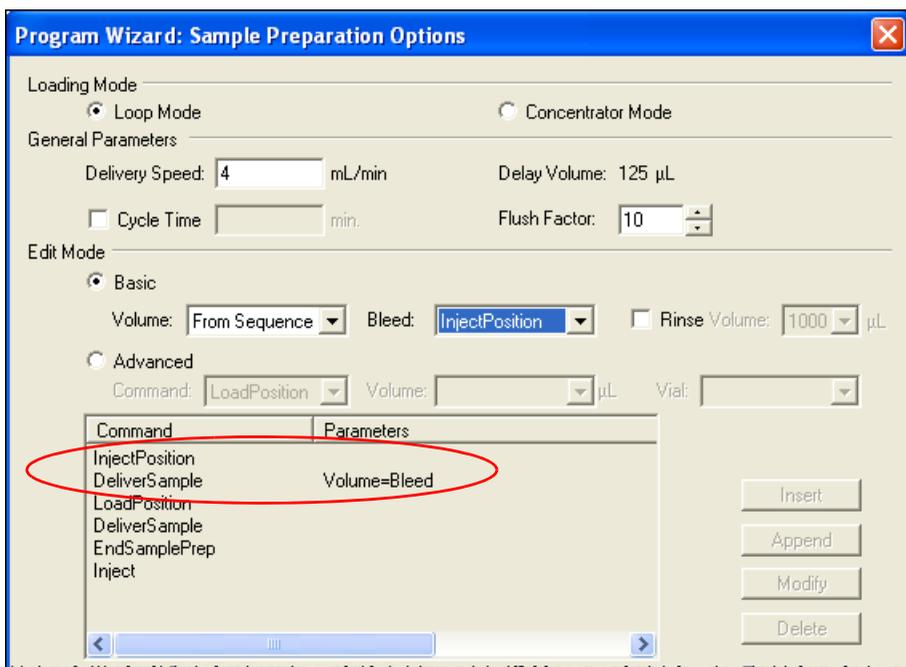
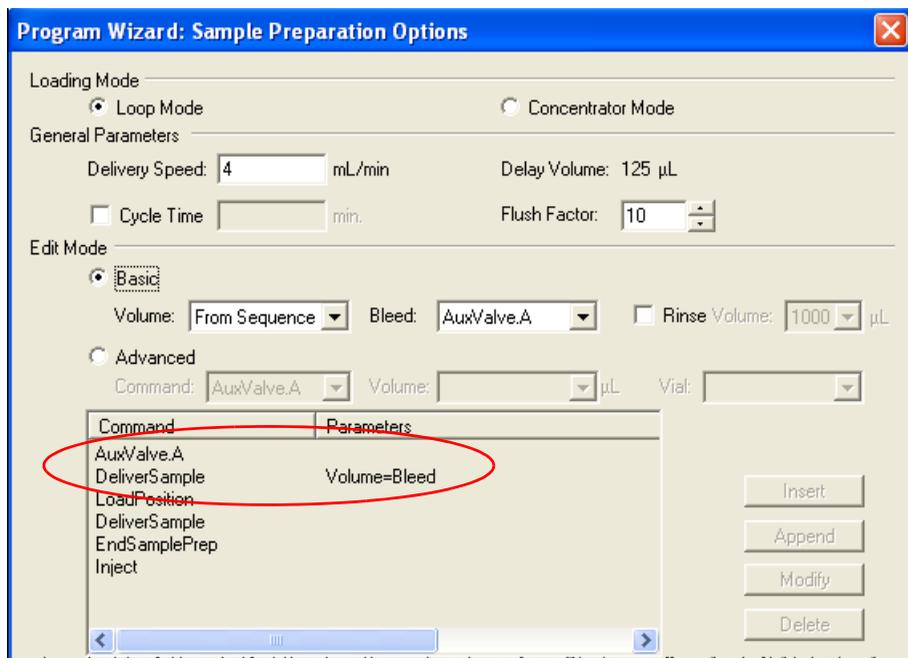

Figure 3-8. Sample Preparation Options (Chromeleon 6.8 Version Shown): Bleed Enabled Using the Injection Valve
Figure 3-9. Sample Preparation Options (Chromeleon 6.8 Version Shown): Bleed Enabled Using the Auxiliary Valve
1. If you are creating a new instrument method or program, go to the Sample Preparation Options page of the Instrument Method Wizard or Program Wizard (see Figure 3-8).
2. If you are using **Basic Edit Mode**: In the **Bleed** list, select the valve position that will direct the bleed to waste. For the typical injection valve plumbing, select **InjectPosition** (see Figure 3-8). For the typical auxiliary valve plumbing, select **AuxValve.A** (see
Figure 3-9). For suggested valve plumbing connections, see “Plumbing the Optional Valve” on page 92.
Selecting **Bleed** adds two commands to the **Command/Parameters** table (see Figure 3-8 and Figure 3-9):